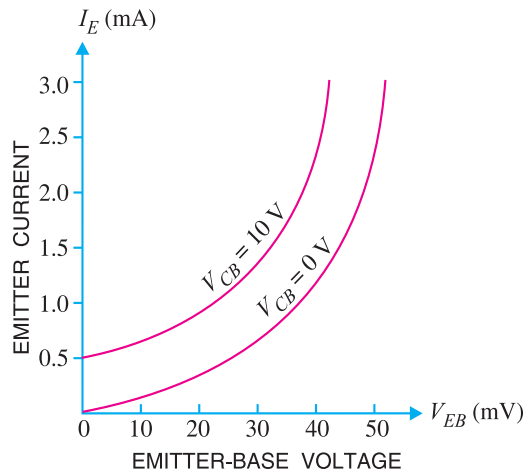

Fig. 8.14
1. Input characteristic. It is the curve between emitter current I_E and emitter-base voltage V_{EB} at constant collector-base voltage V_{CB} . The emitter current is generally taken along y-axis and emitter-base voltage along x-axis. Fig. 8.14 shows the input characteristics of a typical transistor in *CB* arrangement. The following points may be noted from these characteristics :